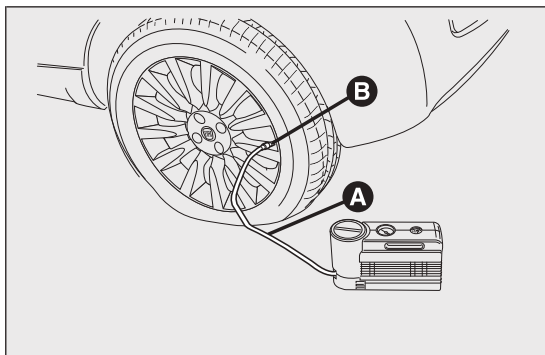

fig. 134
- operate the handbrake. Unscrew the tyre valve cap, take out the flexible filler pipe A fig. 134 and tighten the ring nut B on the tyre valve;